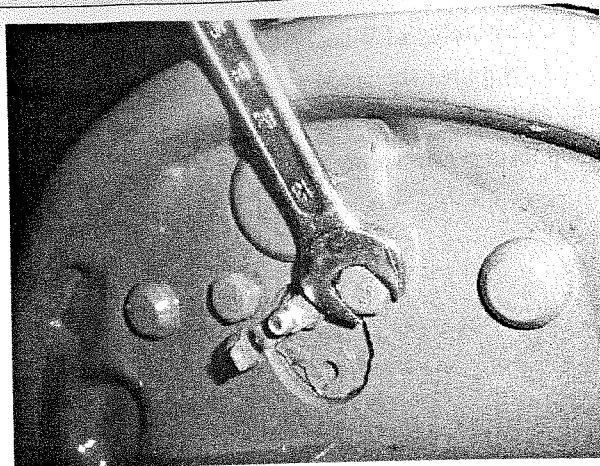

Fig 7-12
(5) Demount the brake oil pip on the wheel Cylinder, then remove the mounting bolts for wheel cylinder, and separate the wheel cylinder from the bottom plate. (Fig 7-12)